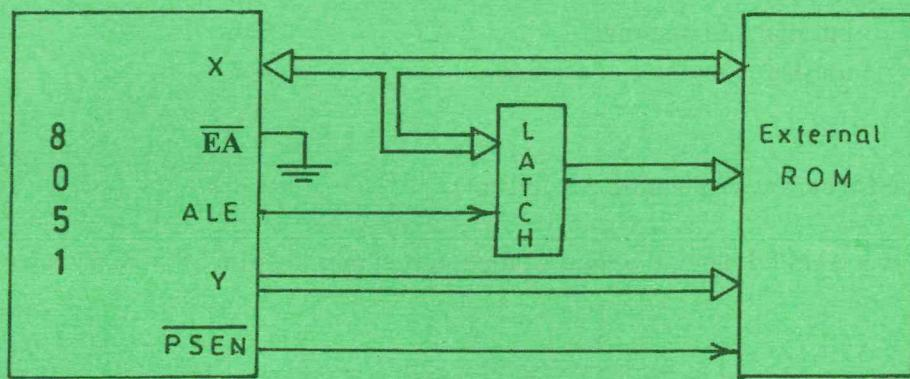

Fig.1
- (b) Figure 1 shows a block diagram of external ROM memory interfacing with 8051 microcontroller.